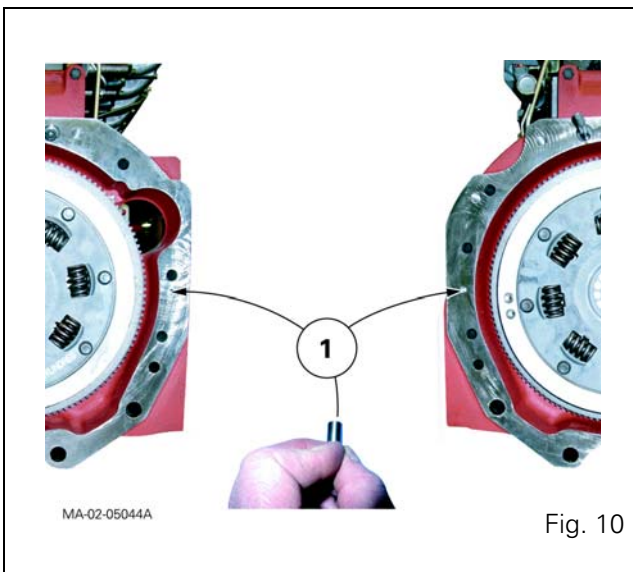

Fig. 10
- the presence of dowels (1) on the engine (Fig. 10),